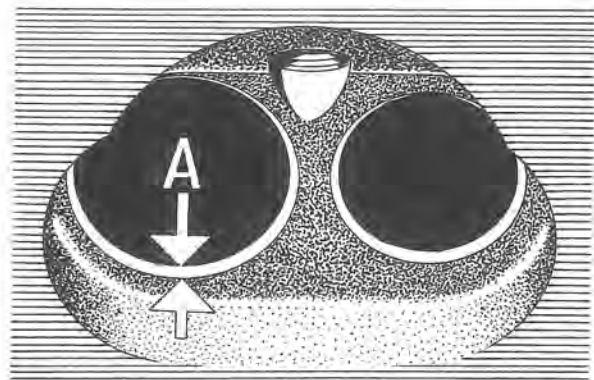

Fig. 2-26. Valve seat width A=2 mm (0.08")
2. Grind the valve seats. Use an electrically driven grinder or a hand milling cutter. A pilot spindle must be carefully fitted before work is started and any worn guides must be replaced with new ones. The seat should be ground until a good sealing surface is obtained. The angle is 45° and the width of the sealing surface is approx. 2 mm (0.08"), see "A", Fig. 2-26. If the sealing surface is too wide after grinding, it can be reduced by using a 70° grinding stone from the inside and a 20° grinding stone from the outside.